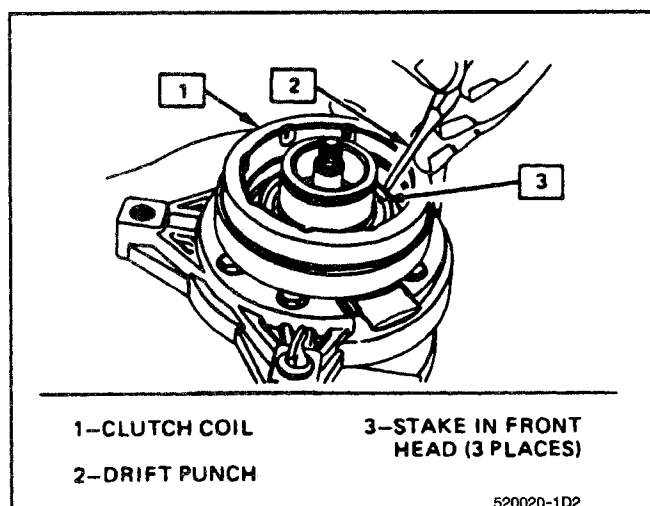

Fig. 16 Staking Clutch Coil to Front Head
5. When coil is fully seated on the front head, use a 1/8" diameter drift punch and stake the front head at three places 120 degrees apart (Fig. 16), to ensure clutch coil remains in position.